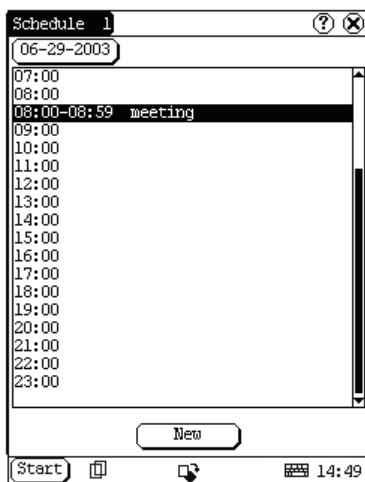

Fig 4-24
- 3) In the list box in the middle of the interface, all schedules on that day corresponding to the Date button will be displayed. (See Fig 4-24)